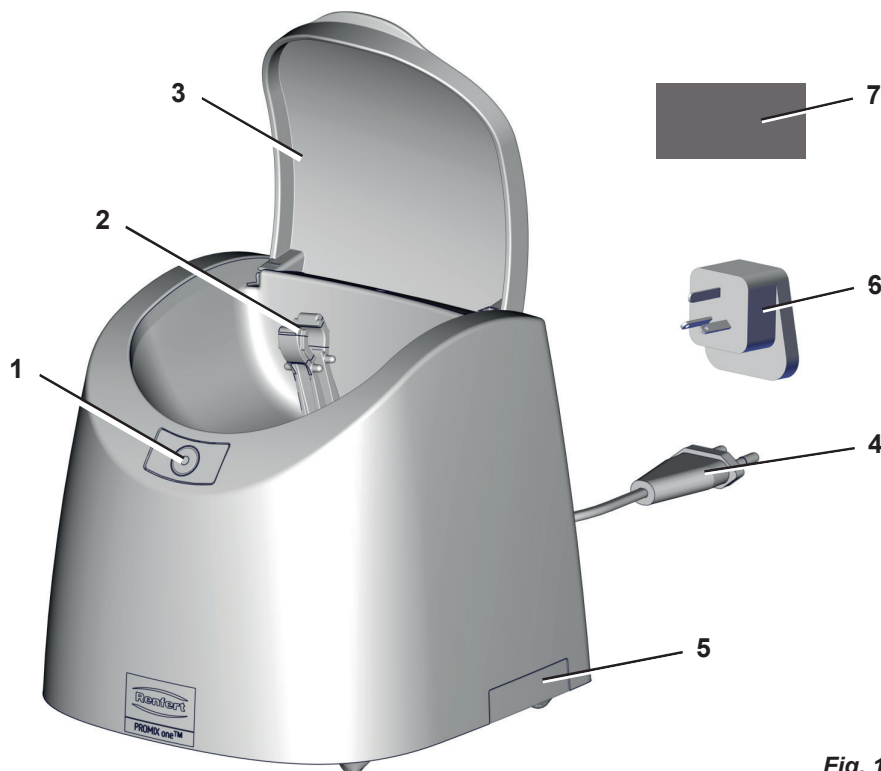

Fig. 1
- ⇒ Unroll the power cord (4, Fig. 1) and insert the plug into the building’s electrical socket. The equipment is now ready for operation.